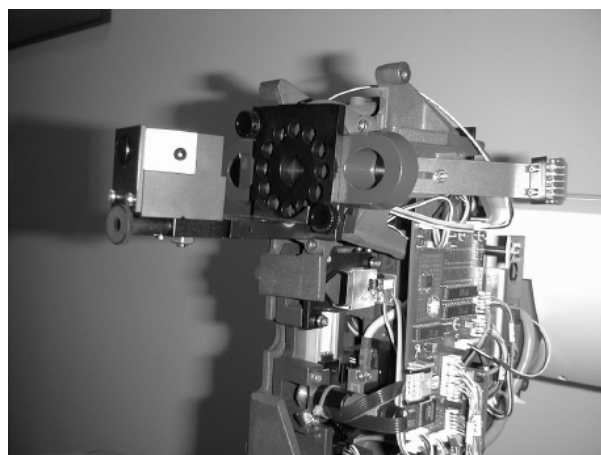

Fig. 14a
- Align the IOLMaster in ALM mode with the test eye. Better: Attach the alignment device 1078-810 to the instrument (see fig. 14a) and swing in the test eye for KER measurement.